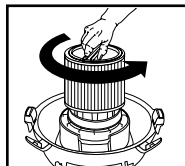

FIGURE 17
23. To remove the filter for cleaning, again hold the tank cover and turn the filter retainer counter-clockwise to loosen and remove. **FIGURE 17.**